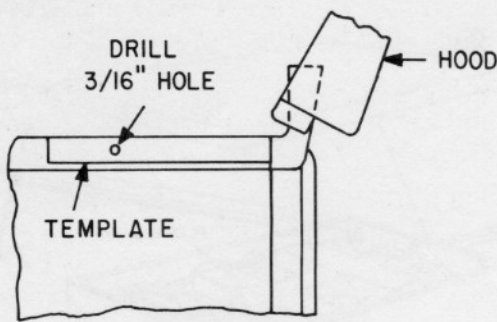

Figure 6. Right Panel
4. Locate and drill a 3/16-inch hole in the right side panel using the template provided as shown in Fig. 6. Place a cloth inside the drilling area to prevent metal chips from entering the compartment.